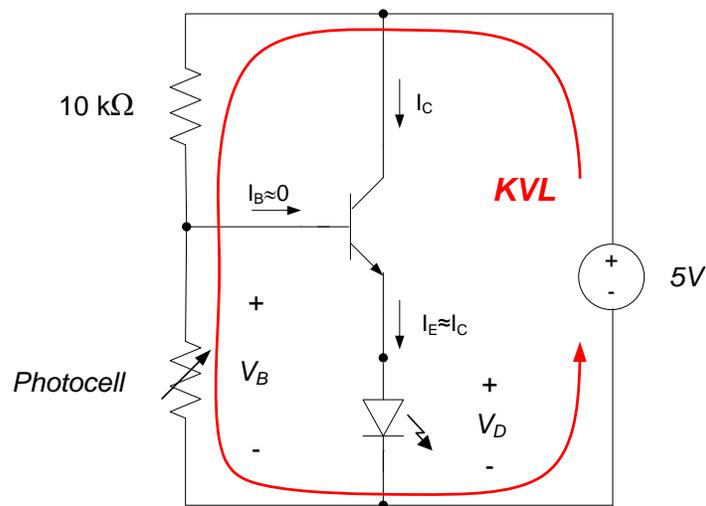

Figure 5. Circuit analysis to determine BJT base voltage.
Apply KVL around the outer loop of the circuit of Figure 1 (as shown in Figure 5) to determine the voltage V_B for photocell resistances of $5\text{k}\Omega$ and $20\text{k}\Omega$. You may assume that the current into the base of the BJT is negligible.
1. Construct the circuit shown in Figure 1. The LED should not light under normal light levels. Using the scope instrument on your Analog Discovery (or a DMM), measure the base voltage of the BJT (V_B in Figure 5) and the voltage difference across the diode (V_D in Figure 5). Record these voltages in your lab notebook and compare them with your calculated values from the prelab.
2. Cover the photocell; the LED should light up. Using the scope instrument on your Analog Discovery (or a DMM), measure the base voltage of the BJT (V_B in Figure 5) and the voltage difference across the diode (V_D in Figure 5). Record these voltages in your lab notebook and compare them with your calculated values from the prelab.